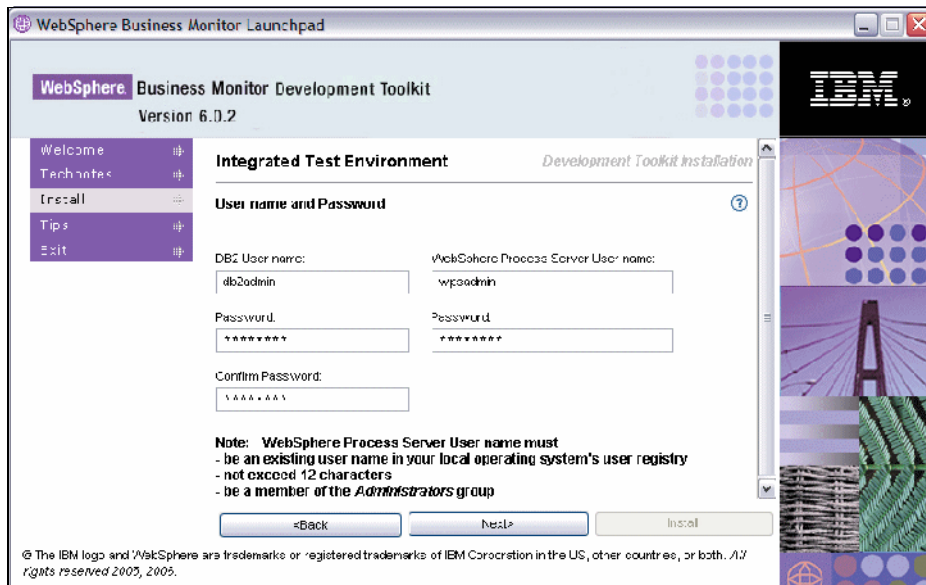

Figure A-13 Monitor Development Toolkit: Integrated Test Environment setup
- ▶ Enter the user name and password for the DB2 and WebSphere Process Server users, then click *Next* (Figure A-13). The DB2 user will be created if it does not already exist.